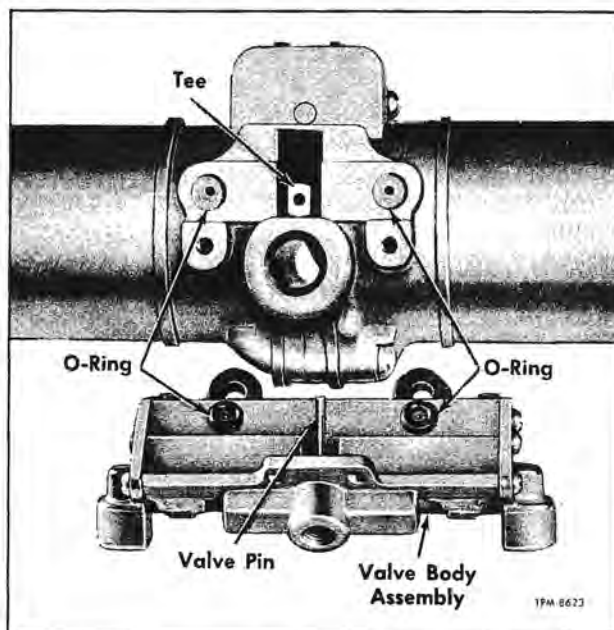
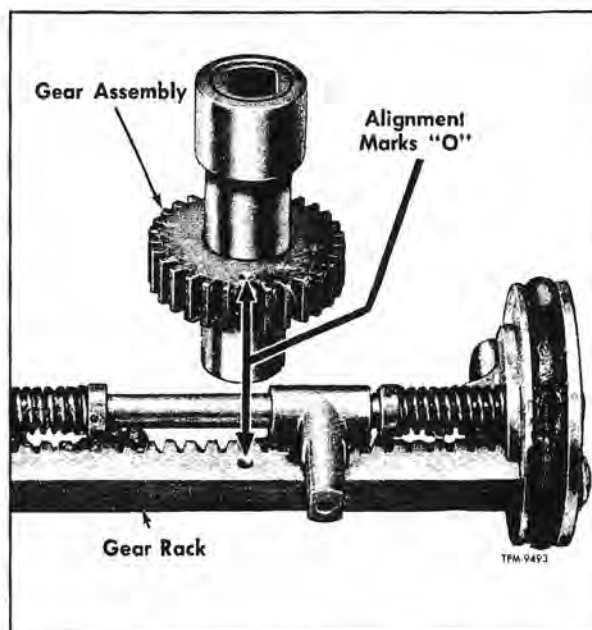

Figure 21—Windshield Wiper Motor Valve Body Removed
Figure 22—Gear-To-Gear Rack Timing Marks
1. Remove retainer (37) which attaches link (36) to motor shaft assembly (35).
2. Remove screw (13) and washer (40) which attach motor transmission shaft (35) into wiper motor. Pull shaft assembly from motor assembly.
3. Remove four bolts (38) which attach mounting bracket assembly (33) to motor.
4. Remove four screws (30) which attach wiper control valve body (31) to motor piston body assemblies. Remove valve body and body O-rings (23). Figure 21 shows body separated.
5. Place right half of piston body (1) (half with threaded screw holes) in vise so that attaching screws are up. CAUTION: Tighten vise ONLY enough to hold body.
6. Remove screws (15) which attach piston bodies together.
7. Slowly lift off upper piston body (14).
8. Note position of alignment marks ("O") on gear (10) and gear rack (7) (fig. 22). Remove gear assembly, noting locations of thick and thin bearings and the chamfer on the rear bearing.
9. Remove thrust block (12).
10. Note position of valve reverser tee (21) in body slot, and remove the piston assembly (39).
NOTE: Make sure chamfer on rear bearing is toward the rear. Install gear and bearings into body. Make sure alignment marks ("O") on gear and rack are aligned (fig. 22).
5. Install left piston body assembly (14) over piston assembly. Attach bodies together with screws (15). Tighten screws firmly.
6. Referring to figure 21, place O-rings (23) on bosses of valve body (31) as shown. Carefully place valve body to motor piston bodies, then install valve body attaching screws (30). Tighten screws firmly.
7. Attach mounting bracket (33) to motor with four bolts (38) and lock washers.
8. Install motor transmission shaft assembly (35) to motor, making sure shaft link is positioned to align with upper wiper arm shaft lever. Install washer (40) and shaft retaining screw (13).
9. Install link (36) to shaft and secure with retainer (37).